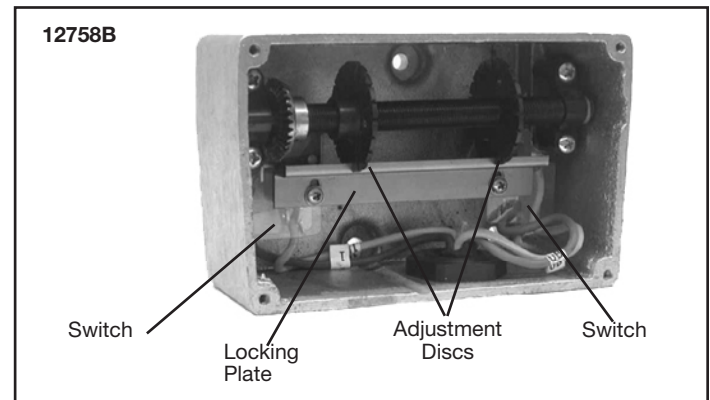

Figure 7-2. Screw-Type Limit Switch Adjustment (Wires Not Shown for Clarity.)
- b) Procedure. Remove load from the hook. To disconnect the geared limit switch, refer to Figure 7-2. Remove the limit switch cover then loosen the two (2) screws holding the locking plate in place. Allow the locking plate to slide down and disengage from the adjustment discs. Do not rotate the adjustment discs.
Position the lower block three inches (3") below the point where the block operated limit switch is activated. The geared limit switch shall be reconnected by sliding the locking plate back into position ensuring slots on adjustment discs are fully engaged and tightening locking plate screws to 4 in-lbs. (See Figure 7-2). The geared limit switch must then be tested.
the lowering circuit. The switch assembly must be wired in accordance with the appropriate wiring diagram, which is shipped with the hoist. Instructions for adjusting limit switch are inside cover and are repeated below (see Figure 7-2).